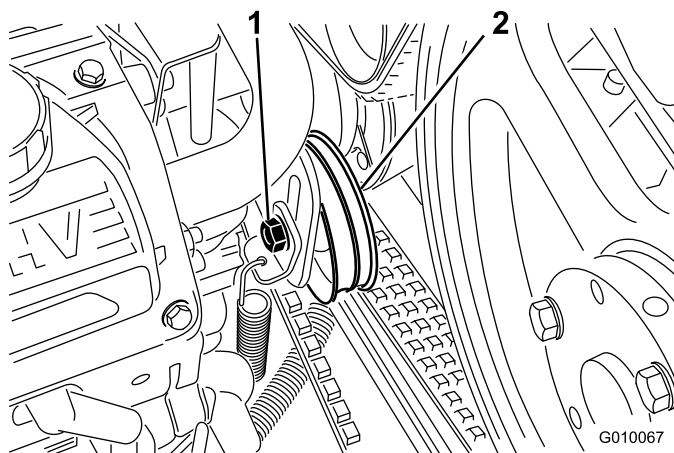

Figure 58
3. Loosen the pump belt idler bolt just enough to allow movement within its adjustment slot (Figure 58).